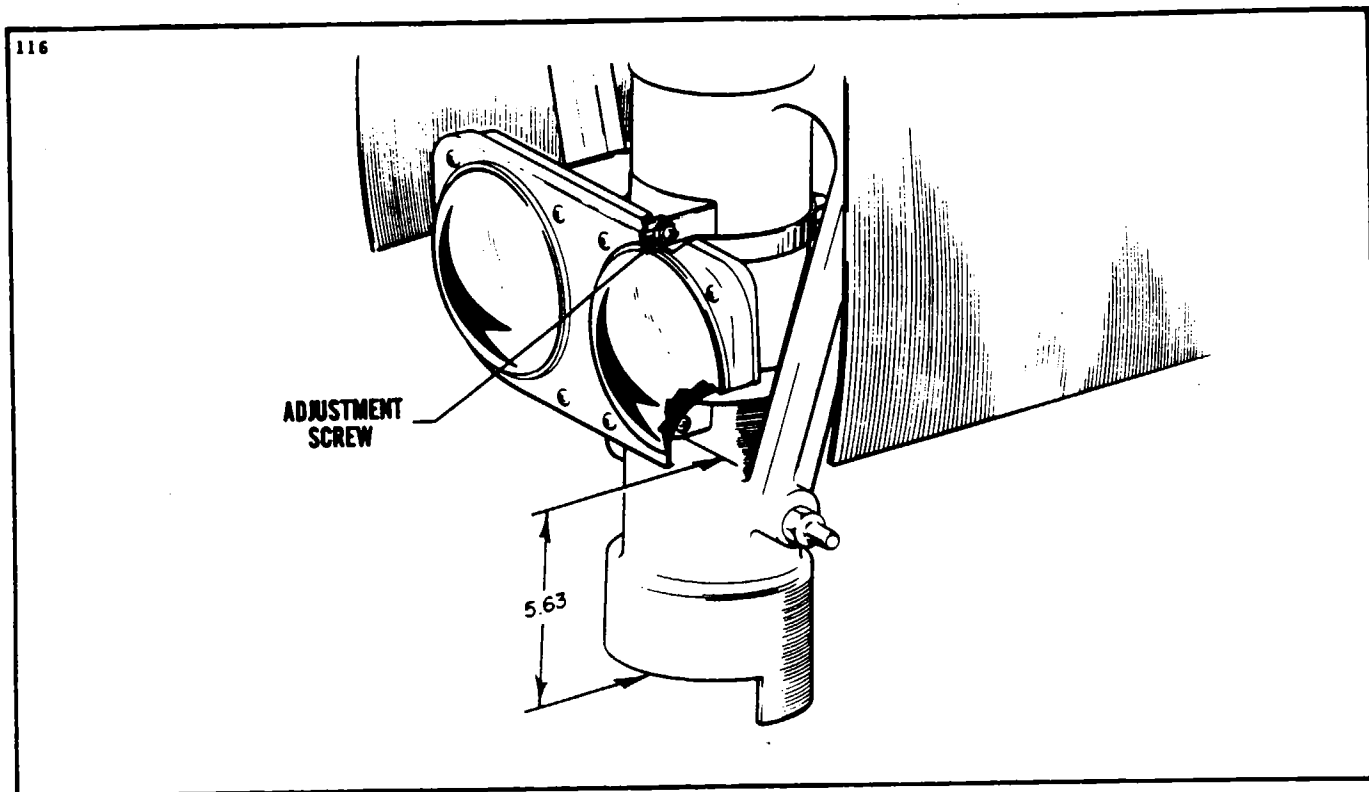

Figure 11-29. Landing Light
11-73. REMOVAL OF LANDING LIGHT. (Refer to Figure 11-29.)
b. To install the landing light assembly, position the assembly against the strut housing with the bottom of the mounting bracket 5.63 inches up from the bottom of the housing. (Refer to Figure 11-29.) Align the bracket longitudinally and secure with clamps. The light beam angle may be adjusted by the adjustment screws at the sides of the bracket and tilting as desired.